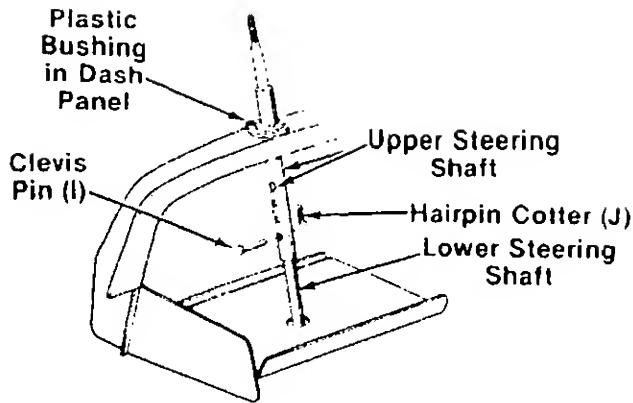

FIGURE 12.
1. For shipping purposes, the upper steering shaft is pushed all the way down over the lower steering shaft. Pull the upper steering shaft up. The four holes in the shaft provide four steering wheel heights. Select desired hole and secure with clevis pin (I) and hairpin cotter (J). See figure 12.